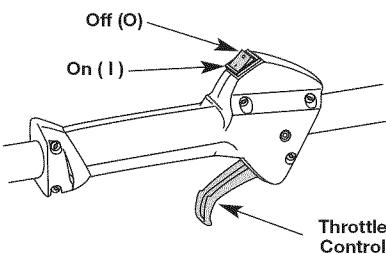

Fig. 7
**NOTE:** There is no need to turn the unit on. The On/Off Control is in the ON (I) position at all times (Fig. 7).
2. Press and hold the On/Off Control in the OFF (O) position until the engine comes to a complete stop (Fig. 7).